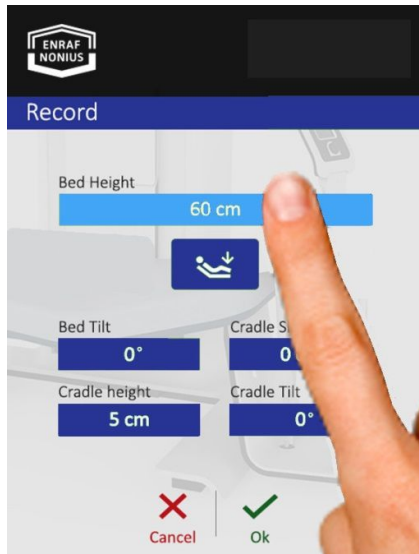

Fig. 15
- Select “*bed height*” and set the desired value (fig. 15 and 16).